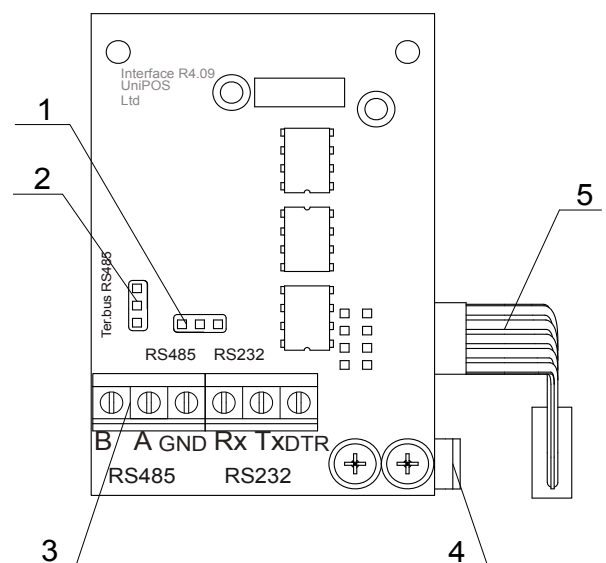

Fig.2
1.2. Select the communication interface corresponding to the desired network functionality pos.1 (Fig.2):
1.3. In case of RS485 communication, terminate the line resistance by means of the jumper pos.2 (Fig.2):